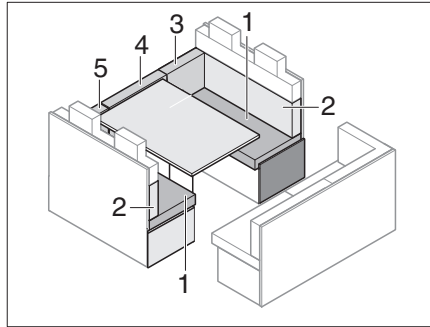

Fig. 190 Prior to conversion
- Remove the back cushions (Fig. 190,3,4 and 5) and lay them aside.